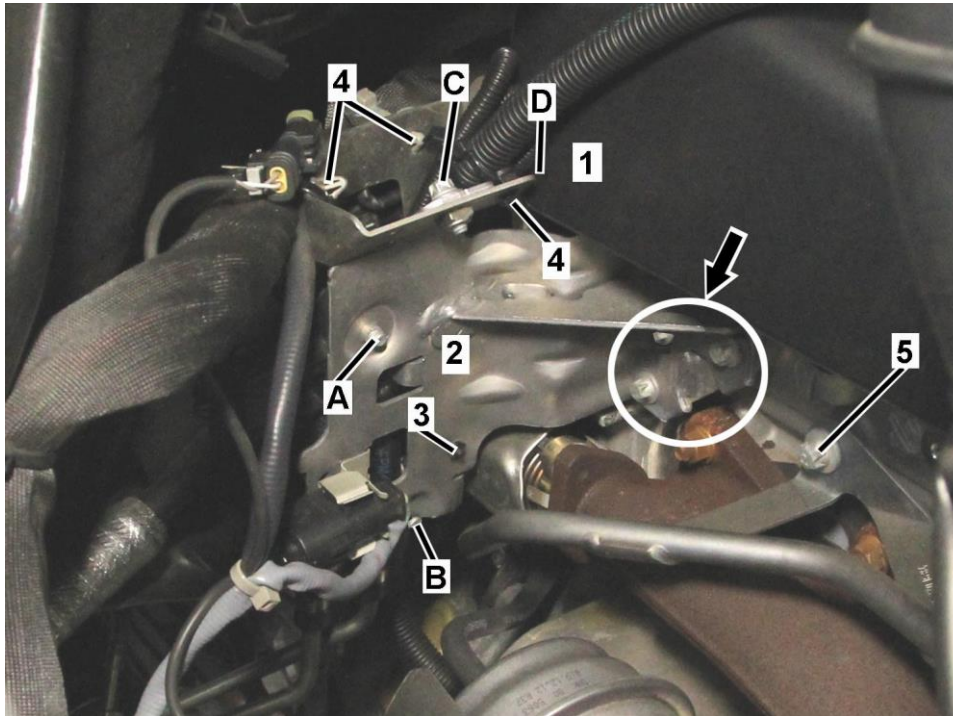
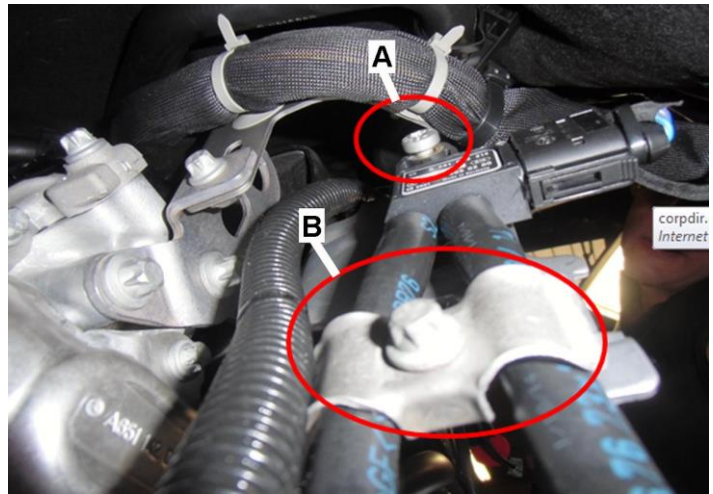

Figure 2
Figure 3 (Rear view of mounting bracket)
3. Lift up on right rear corner (1, Figure 2) of upper engine cover to release cover from mounting bracket (2). **Note:** Engine cover is mounted to a ball stud (D) on the mounting bracket (2).
4. Carefully push cable tie mounting clip (3) out from mounting bracket (2). Be careful not to damage mounting clip (3). In the event of damage to mounting clip, replace with part no.: A 007 997 5690.
5. Remove differential pressure sensor screws (A, B, Figure 2) from rear of mounting bracket (2, Figure 2). Refer also to Figure 3.
6. Remove top screw (C, Figure 2) from mounting bracket (2, Figure 2).
7. Remove 3 mounting bracket screws (arrow, Figure 2).
Note: Do not remove cable tie mounting clips (4, Figure 2) out from mounting bracket (2, Figure 2).
8. Remove transmission dipstick tube mounting screw (5, Figure 2).
9. Move mounting bracket (2, Figure 2) away from engine.